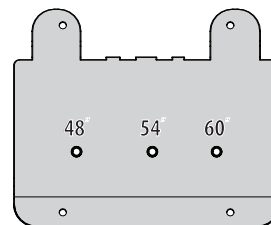

Figure 9
1. Using Figure 9, locate the correct mounting hole location on the mounting plate for your tractor.